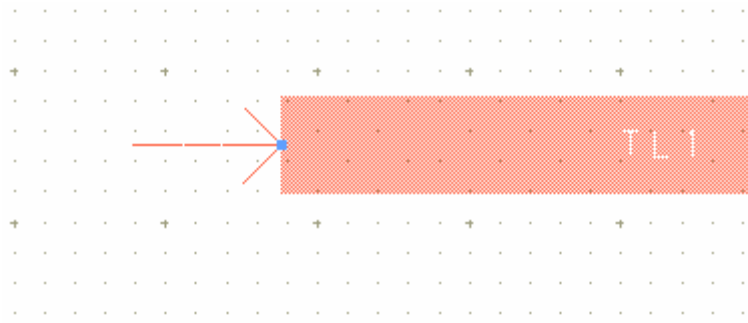

Figure 8. Port added to the left-hand side of the filter.
- iii) Add a “port” to the mid-point of the 50 Ohm line on the left-hand side of the filter. Refer to Figure 8.